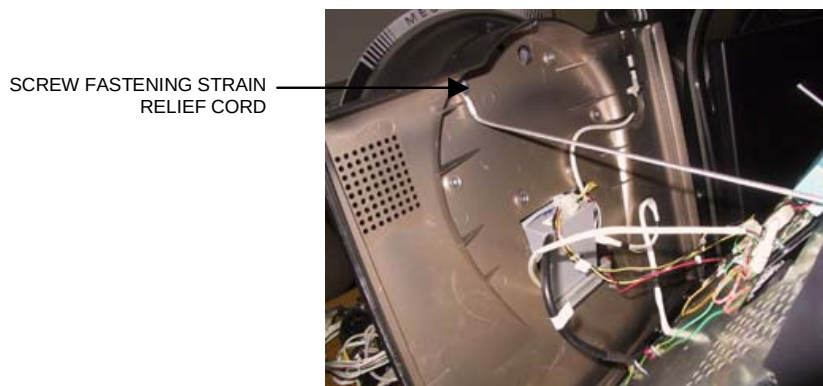

FIGURE 4 - HALFWAY-OPEN MONITOR ASSEMBLY
6. Open the monitor assembly halfway and remove the screw fastening the strain relief cord (see Figure 4). While doing this, please be careful to not put too much strain on the cables running from the rear bezel to the monitor. When the strain relief cord is disconnected, open the front bezel fully and rest it on a support. This may be easier to do if the 3 cables running from the rear bezel to the monitor are disconnected. To do so, carefully disconnect the cables where they connect to the monitor, noting their location and orientation.